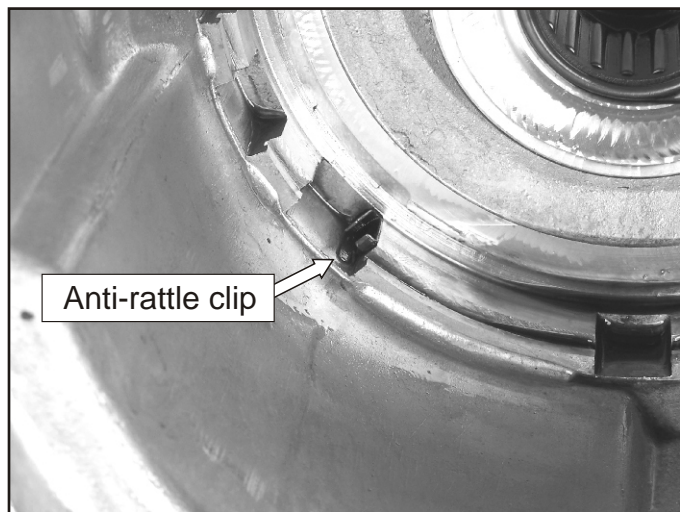

Figure 252
- 180. Install the anti-rattle clip into the case half as shown in Figure 252.